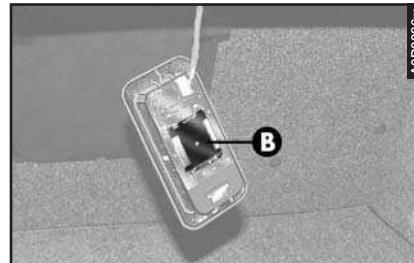

fig. 81
– Lift the protection cover (**B- fig. 81**).